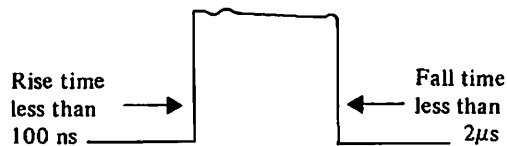

FIG. 8.2 Switching Waveform
10. Check that the switching waveform is within the limits shown. (Fig 8.2)